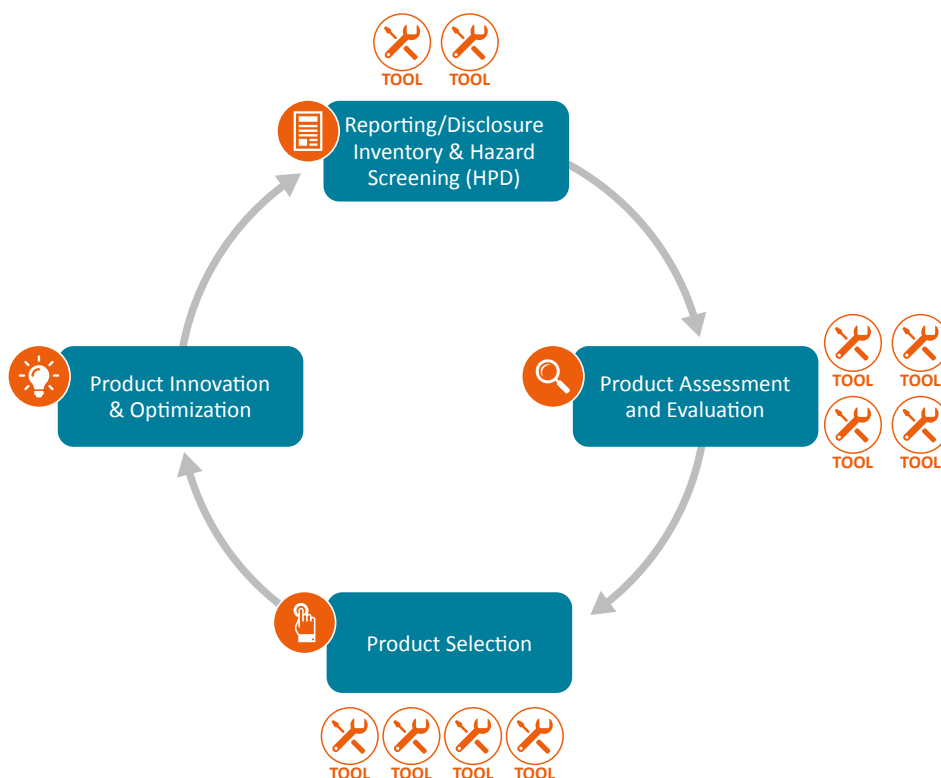

Figure 1. Virtuous Cycle of Collaborative Innovation to Improve Building Products and Disclosure
- **Use HPDs to collaborate with manufacturers on product innovation.** Finally, some firms and clients are interested in discussing the health-related attributes of products directly with product manufacturers. HPDs provide a common language and database of information on the health attributes of products to support these discussions. HPDs play a key role in the cycle of product improvement and innovation described in the Introduction chapter of this *Guide* and illustrated in Figure 1.